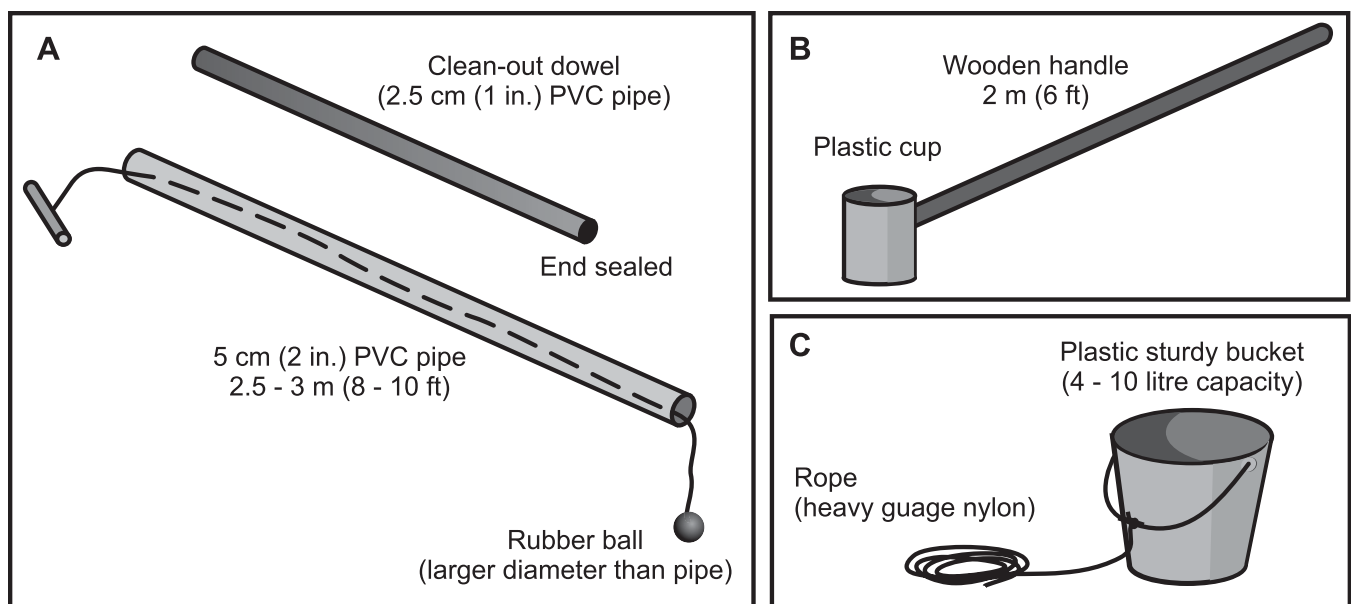

Figure 3. Liquid manure sampling devices: (a) composite (b) pole-and-cup (c) bucket and rope
2. a small collection can or a pole-and-cup device (Figure 3), a bucket or a pan
Step 1 Using a sample collection device (Figure 3) to collect several grab-samples:
2. a manure-sampling device (Figure 3):
- pole-and-cup device: a pole 3 to 4.5 m (10 to 15 ft) long with a cup attached to the end (Figure 3)
- bucket and rope (Figure 3)
To collect a sample using a composite sampling probe (Figure 3), start by brushing away floating debris or scum from the collection area to avoid collecting it in the sub-sample. Extend the pipe into the storage about 2 metres (6 feet) away from the edge of the storage. Be careful not to plug the end of the pipe with sludge from the bottom of the lagoon. Once the tube reaches the bottom of the storage, the tube is sealed off using either a bull plug on the bottom (attached to a handle at the top) or by covering the top of the pipe with your hand (to create an air lock).
Alternatively, a pole with a cup (Figure 3) may be used to dip into the storage and take samples from 8 to 12 different locations near the top, middle and bottom of the structure. Collect each sample about 2 metres (6 feet) from the edge of the storage. Avoid floating debris or scum when collecting the sample. In an unagitated lagoon, this method is less accurate than the column method. Samples may be collected either in one composite pail or in a pail for each sampling depth.